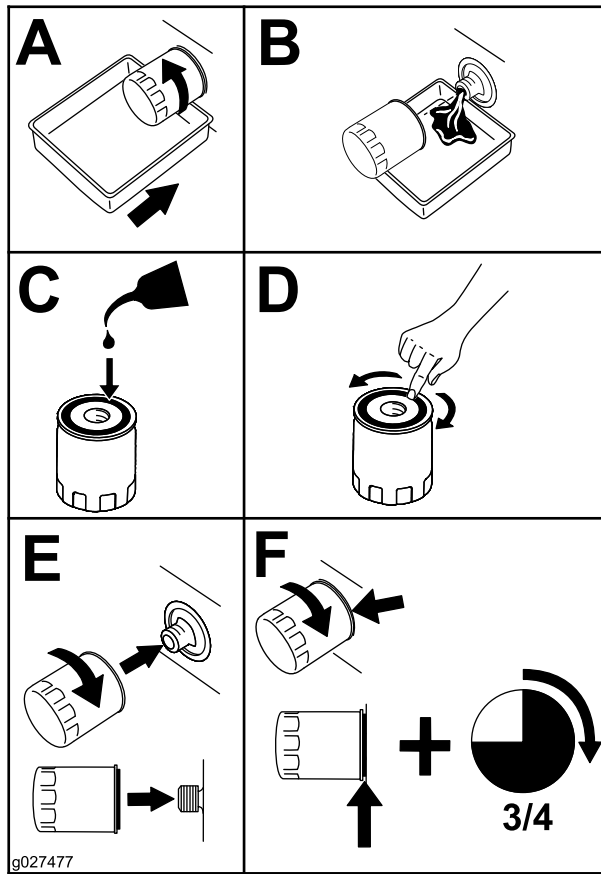

Figure 44
5. Change the engine-oil filter (Figure 44).